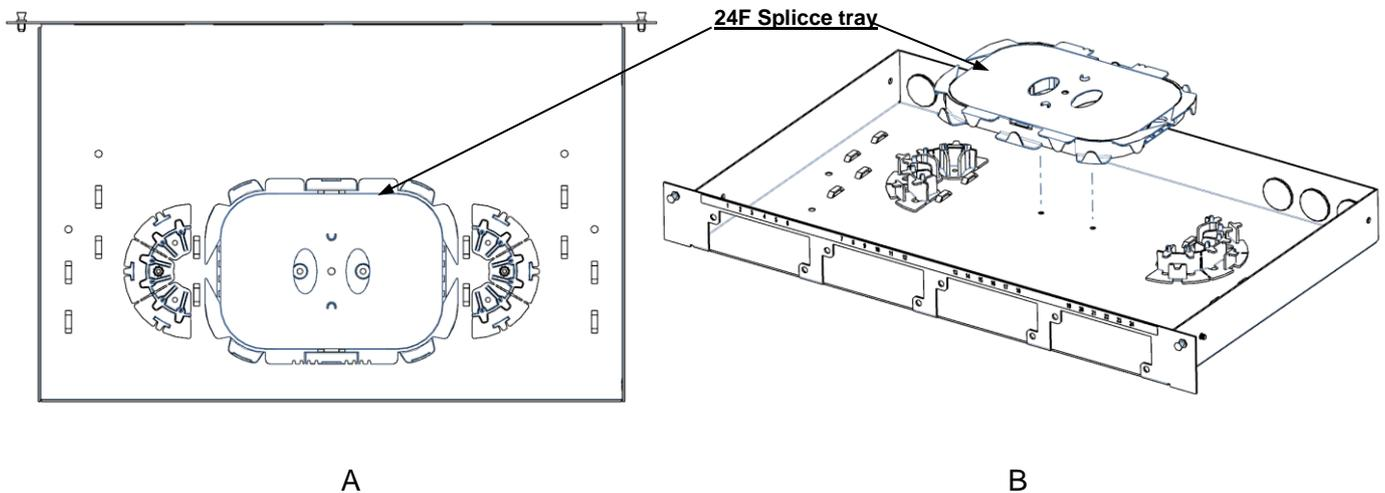

Fig. 8
4.0. 24F Splice tray installation (Fig. 8):